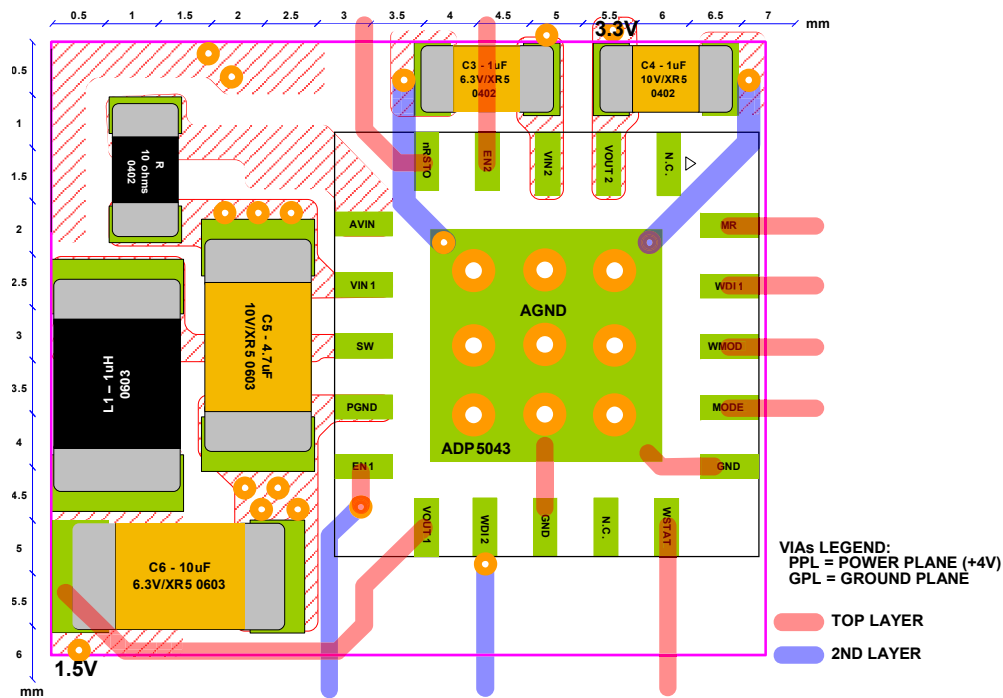

Figure 55. Layout
An important factor to consider is that  $\theta_{JA}$  is based on a four-layer 4 inch × 3 inch, 2.5 oz copper, as per JEDEC standard, and real applications may use different sizes and layers. It is important to maximize the copper used to remove the heat from the device, and copper exposed to air dissipates heat better than copper used in the inner layers. The thermal pad (TP) should be connected to the ground plane with several vias as shown in Figure 55.